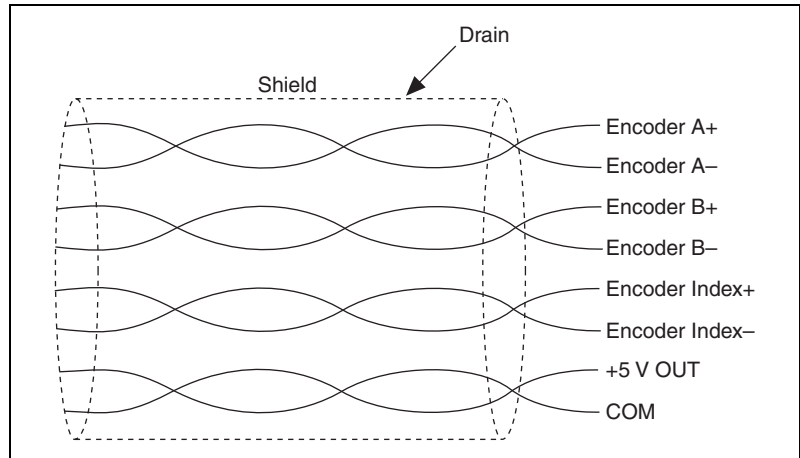

Figure 4-7. Shielded Twisted Pairs
- Cables with twisted pairs and an overall shield are recommended for optimized noise immunity. Figure 4-7 shows twisted pairs in a shielded cable. Unshielded cables can cause noise to corrupt the encoder signals, resulting in lost or additional counts and reduced motion system accuracy.